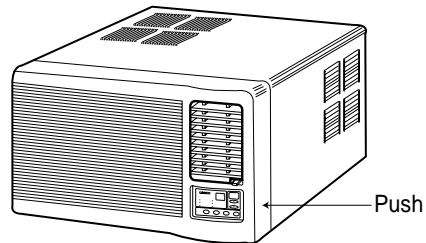

Fig. 2
4. Push it again to separate the front grille from the cabinet as shown in Fig. 2